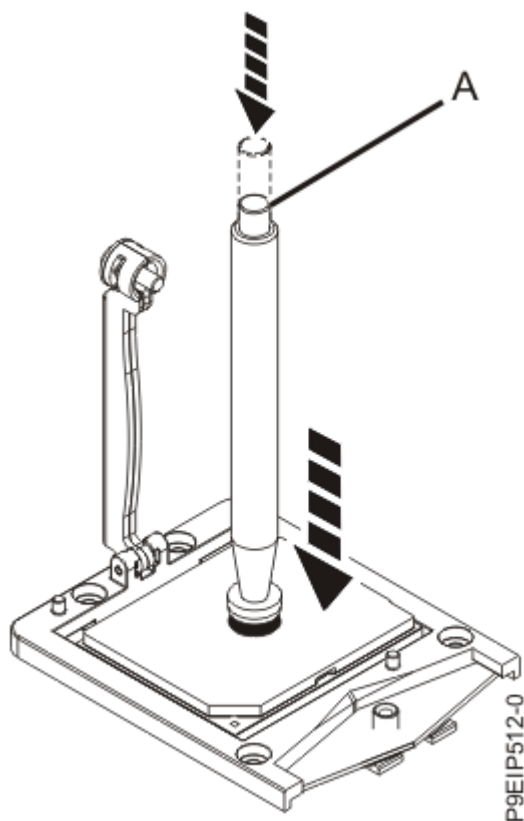

Figure 54. Locking the vacuum pen to the system processor module
8. Lower the vacuum pen tool onto the system processor module. Fully press the top of the pen **(A)** and hold the pen in the center of the system processor module as shown in Figure 54 on page 61. Release the top of the pen to fasten the pen onto the system processor module.